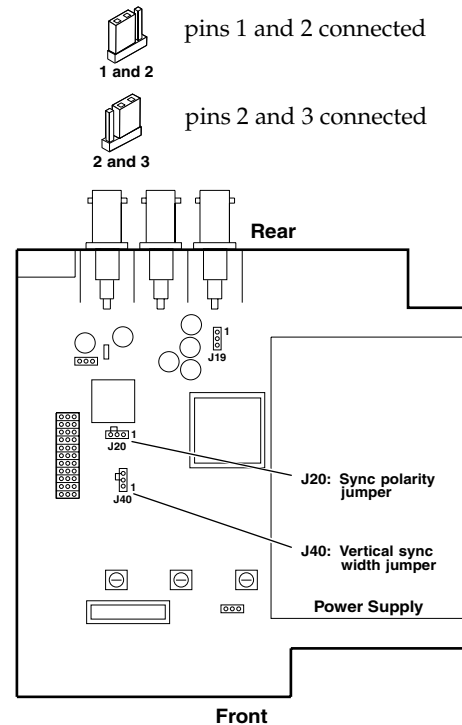

Figure 7 — Circuit board jumper locations
- Note the positions of jumpers J20 and J40 before changing jumper settings (figure 7). There are two possible setting combinations for 3-pin jumpers: